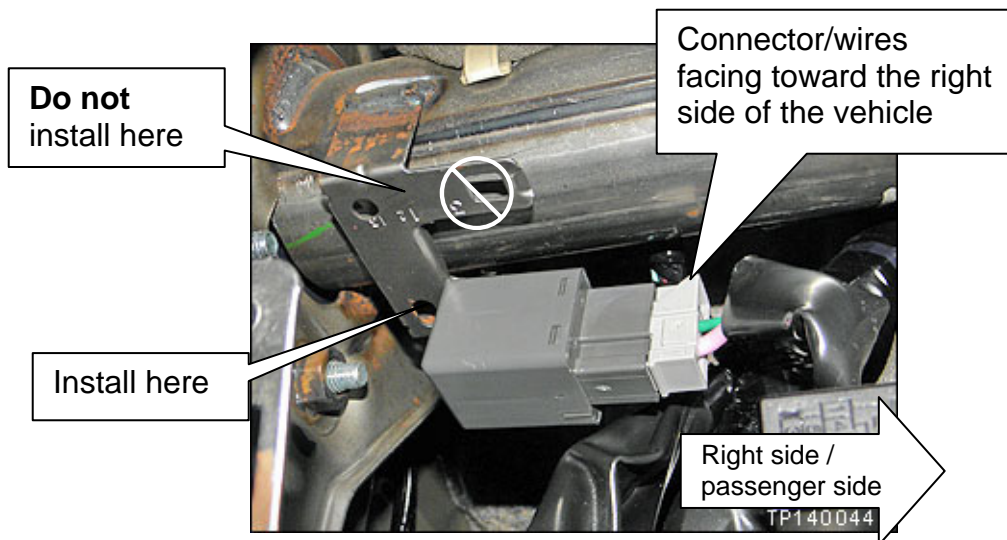

Figure 12
13. Reinstall Circuit Breaker-2 as shown in Figure 12.